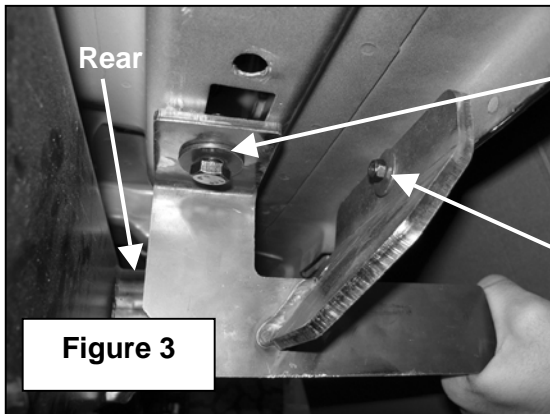
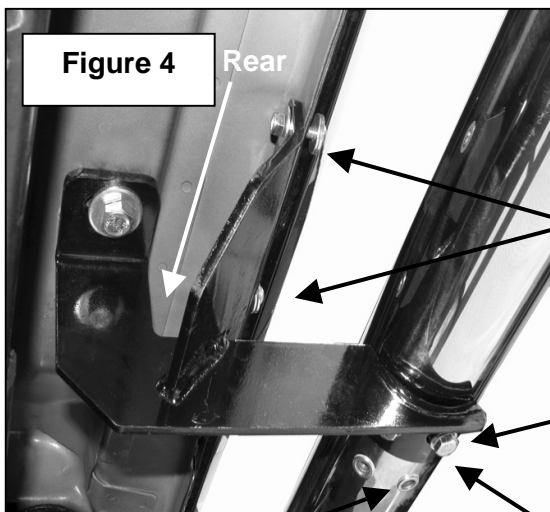

Figure 3
Figure 4
5. Repeat steps 2-4 for Rear Driver Side Mounting Bracket. **NOTE:** For the 2007 JK you will only use (1) 6-1.00mm x 25mm Allen Bolt, (1) 6mm Nylock Nut, (1) 6.5mm ID x 18mm OD x 1.6mm Flat Washer (for the out side) and use (1) 6.3mm ID x 23mm OD x 3.2mm Flat Washer (for the inside against the bracket) to attach rear bracket to pinch weld, (Figure 3). For the 2008 JK you will use (2) 6mm Nylock Nuts and related hardware (Figure 4).
6. Position Driver Side Bar onto brackets. Attach Side Bar to Mounting Brackets using the included (4) 8-1.25mm x 25mm Hex Head Bolt, (4) 8mm Lock Washers, and (4) 8mm Fender Washers (**Figure 4**). Do not tighten at this time. **NOTE:** For 2007 JK's you will use the rear mounting holes, and for the 2008 JK's you will use the front mounting holes (**Figure 4**).